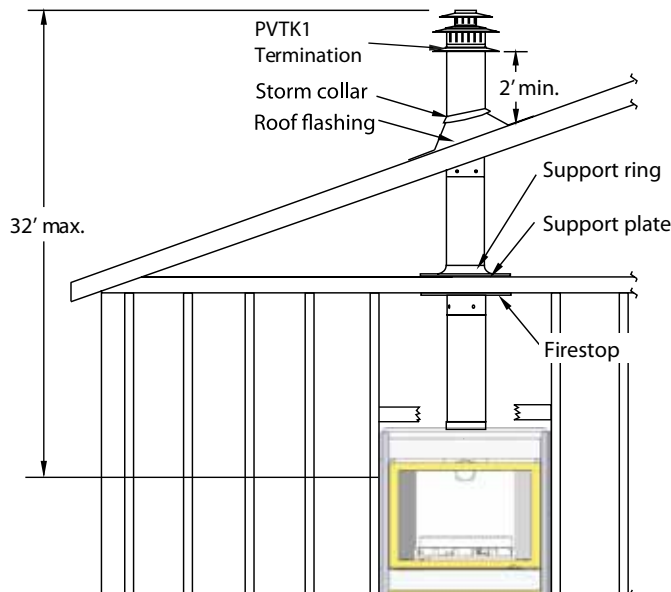

Figure 11. Top vent, Roof mounted termination with no offset in vent run.
- The Vertical termination must be a minimum 2' higher than where the termination exits the roofing materials, (asphalt shingles, cedarshakes, etc). This distance should be measured from the high side of the roof slope where the flue flashing intersects the roofing materials. (See *Figures 11 to 11c**).